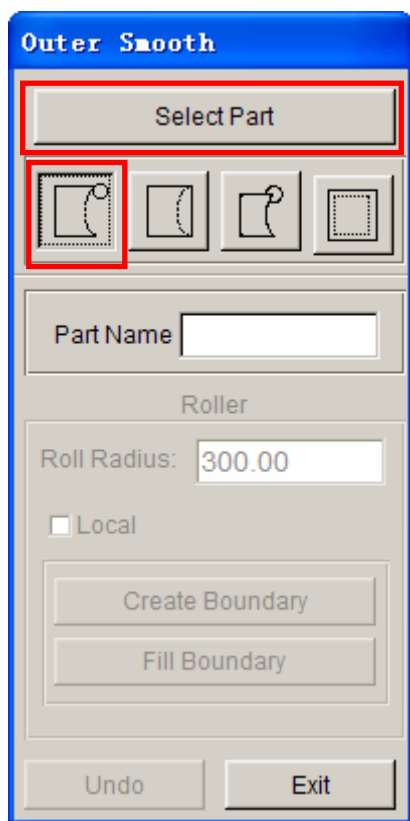

Figure 23 Outer Smooth dialog box
1. Select **OUTER SMOOTH** in the **DFE Preparation** to display the dialog box illustrated in Figure 23.